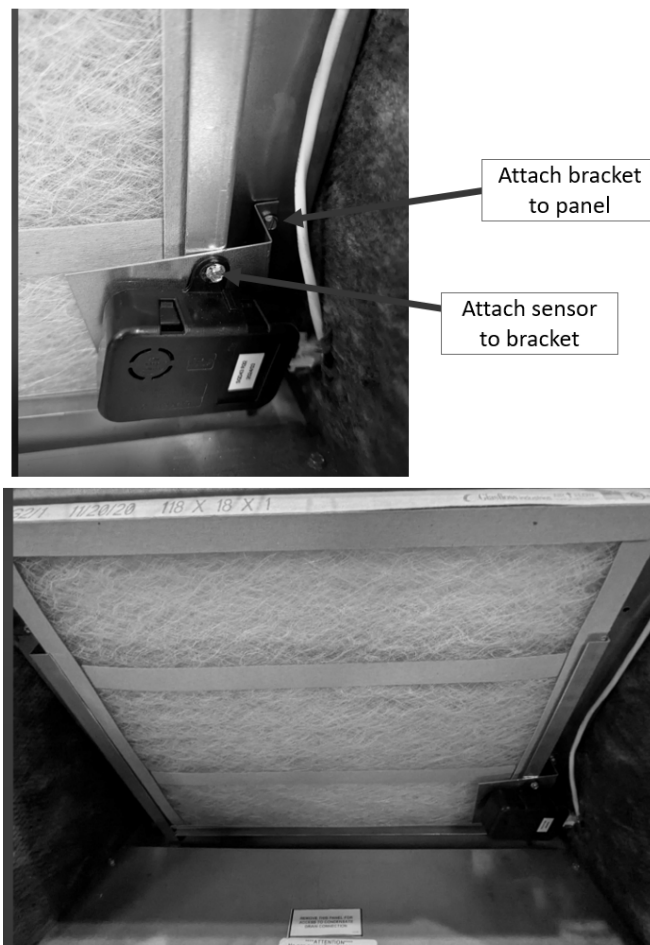

Figure 3 – A2L Sensor Placement
3. Remove the existing A2L sensor from its bracket by loosening the two mounting screws. Reuse these screws to install the new sensor (as shown in **Figure 3 – A2L Sensor Placement**).
4. Mount the new sensor onto the bracket using the two existing screws. **CAUTION:** Do not screw into the coil or tubing (as shown in **Figure 3 – A2L Sensor Placement**).